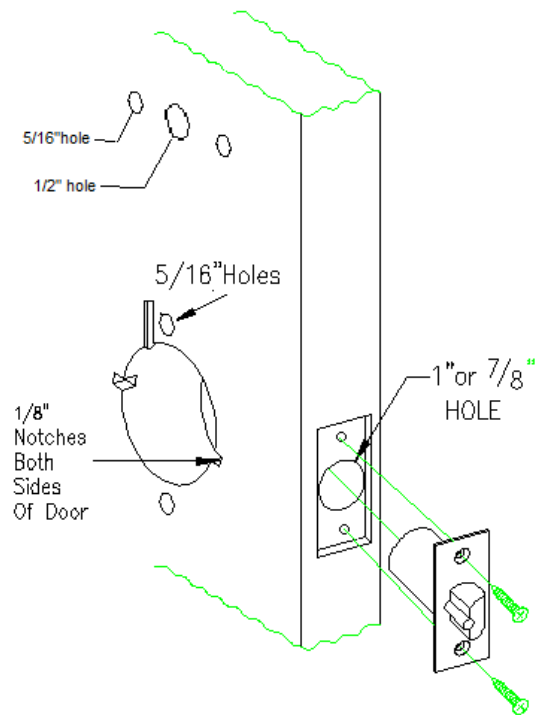

Figure 2. Drilling holes and install latch
- Install the latch in the door as shown in Figure 2.